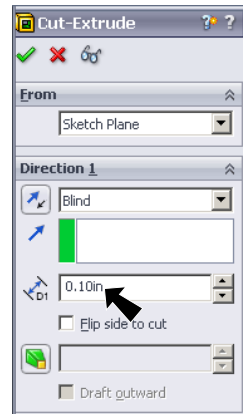

Fig. 7
Step 10. In the Property Manager set, under Direction 1, **Fig. 7**